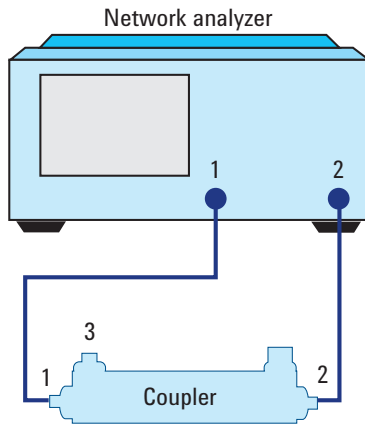

Figure 10. Equipment setup using network analyzer with coupler
1. Calibrate the network analyzer with full 2-Port calibration with setup based on network analyzer model being used. The test setup is shown in Figure 10.
3. Connect the device under test (DUT) to the network analyzer per Figure 10. **The unused port to be terminated with a 50 Ω termination.**